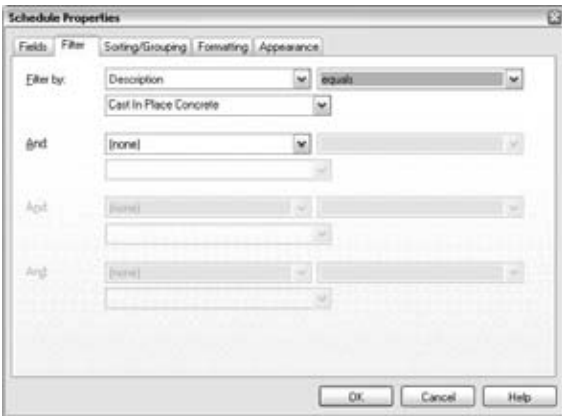

Figure 11.13
11. Choose the Filter tab (Figure 11.13). Because you want to show only the concrete walls, you need to filter out all the other walls in this schedule.